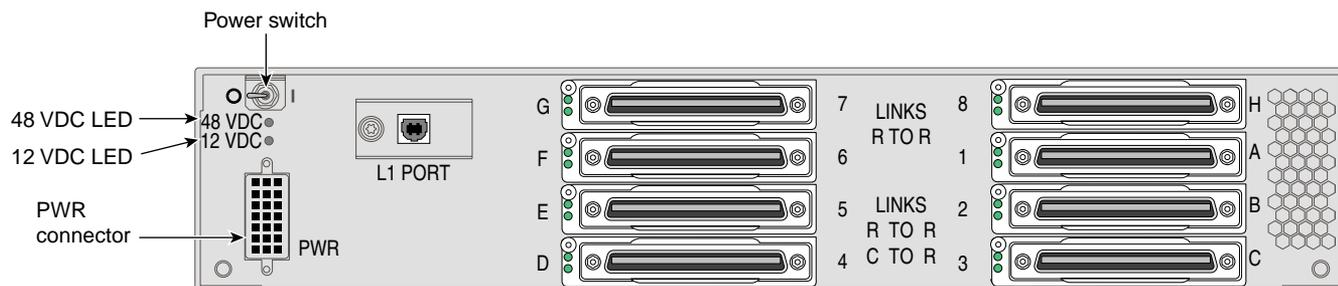

Figure 2-15 NUMAlink Module Power Switch
- Ensure that the **PWR** (power) switch on each NUMAlink and PCI expansion module that you want to power on is set to the On (**1**) position. The PWR switch is located in the upper-left corner of the module (refer to Figure 2-15). This switch enables the L1 controllers of the NUMAlink module and PCI expansion modules to power on after you turn on the circuit breaker of the PDU.